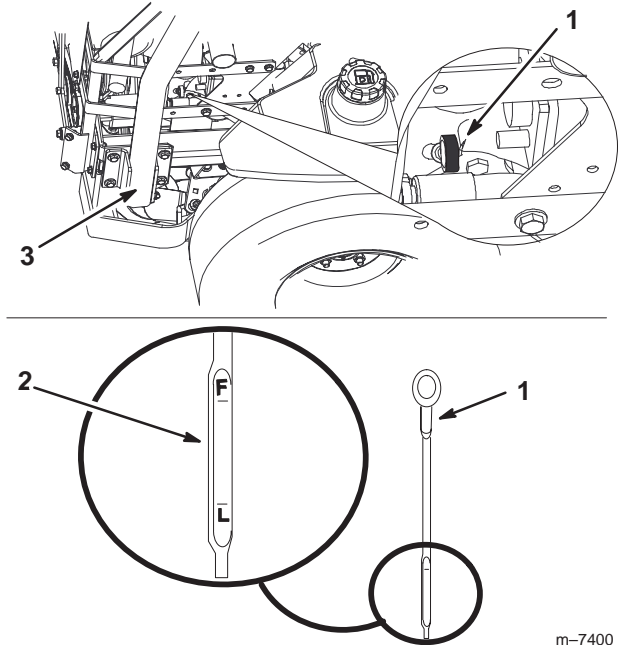

Figure 46
3. Clean around the oil dipstick so that dirt cannot fall into the filler hole and damage the engine (Fig. 46).
4. Pull the oil dipstick out and wipe the metal end clean (Fig. 46).
5. Slide the oil dipstick fully into the tube. Pull the dipstick out and look at the metal end (Fig. 46). If the oil level is low, slowly pour only enough oil into the filler tube to raise the level to the full mark.